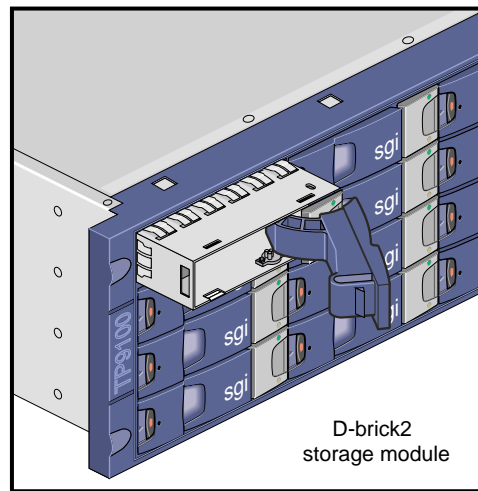

Figure 12-18 Inserting the Disk Drive Module in a D-brick2
6. Orient the new drive carrier module so that the hinge of the handle is on the right. Then slide the drive carrier module into the chassis until it is stopped by the camming lever on the right of the module (see Figure 12-18).